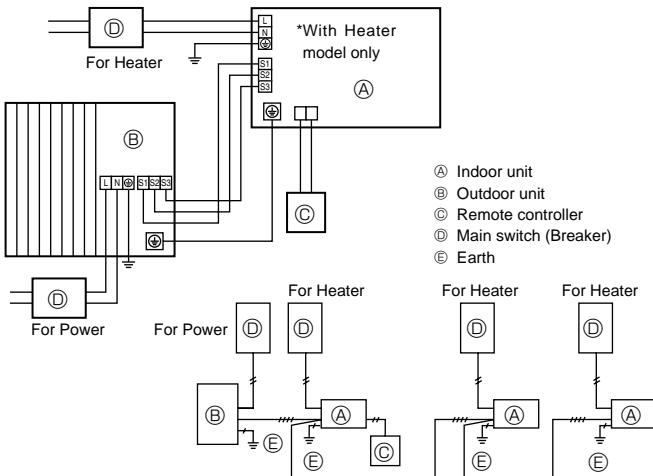
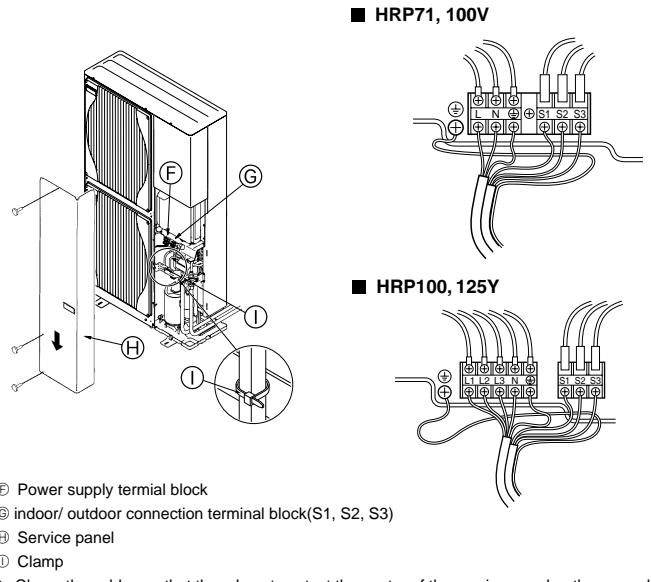

Fig. 6-1
Fig. 6-2
6.1. Outdoor unit (Fig. 6-1, Fig. 6-2)
① Remove the service panel.
② Wire the cables referring to the Fig. 6-1 and the Fig. 6-2.